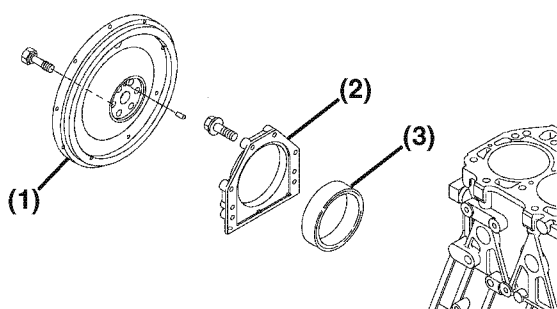

Figure 6-139
7. Apply ThreeBond Liquid Gasket No. 1212, Yanmar Part No. 977770-01212 to the mounting flange of the seal housing (**Figure 6-139, (2)**).
10. Reinstall the flywheel (**Figure 6-139, (1)**) and tighten the bolts to the specified torque. See *Special Torque Chart* on page 6-23 for specifications.